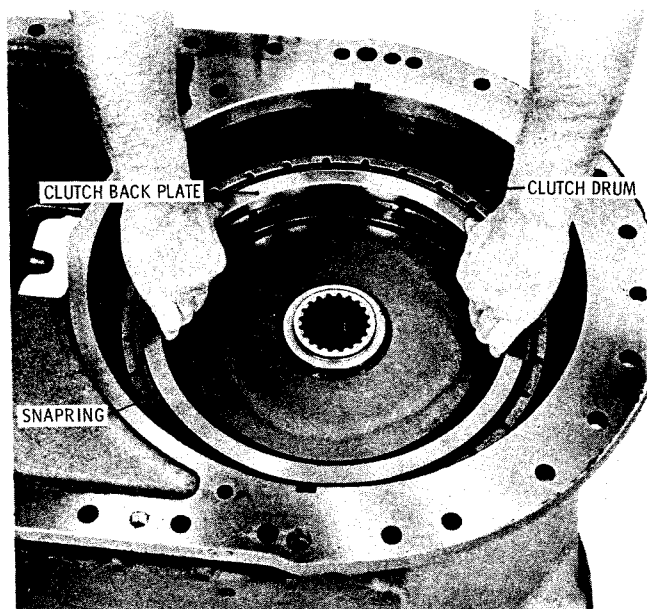

Fig. 5-75. Removing high-range clutch drum assembly
(13) Re-install the high-range clutch back plate (fig. 5-75) and snapping into the high-range clutch drum. Lift out the drum and related parts by shouldering the back plate against the snapping. Remove the snapping and back plate. Refer to paragraph 6-30 for rebuild of the high-range clutch drum assembly.